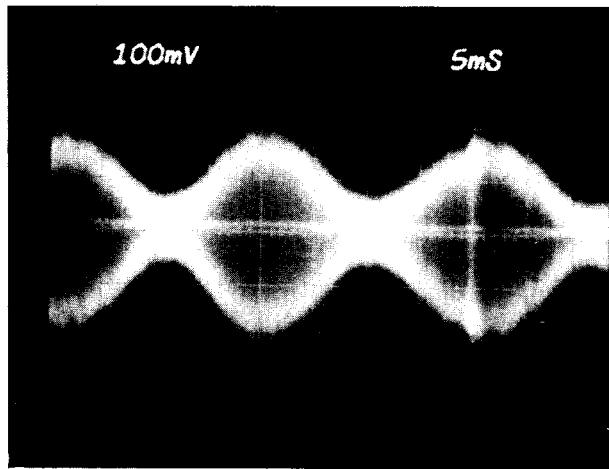

Figure 5-11 R/W HEAD ALIGNMENT CHECK WAVEFORM
3. The signal from a correctly aligned head will appear as shown in Figure 5-11. Adjustment is required if successive lobes differ by more than 20%. For example; if the maximum p-p amplitude of the first lobe is 150 millivolts or less, the head should be adjusted. Figure 5-12C shows 60% misadjustment of a standard density machine using the IBM C.E. Pack without the hub shim. If the waveform is not within the specified acceptable range, perform the Alignment Procedure (subsection 5.5.4.5.2).